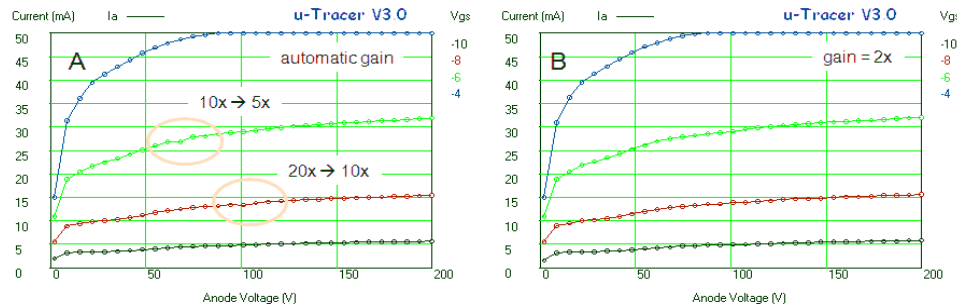

Figure 3.3.1 An $I_a(V_a)$ plot for $V_g = -10V, -8V, -6V, -4V$ and $V_s = 200V$.
- Although the gains of the PGAs are quite accurate, it is still possible that small deviations from the ideal gain in different ranges may cause small dips or bumps in the graph when the algorithm changes the range in the middle of a graph. For the nicest “show pictures” it may therefore be best to set the range manually (Fig. 3.3.1).